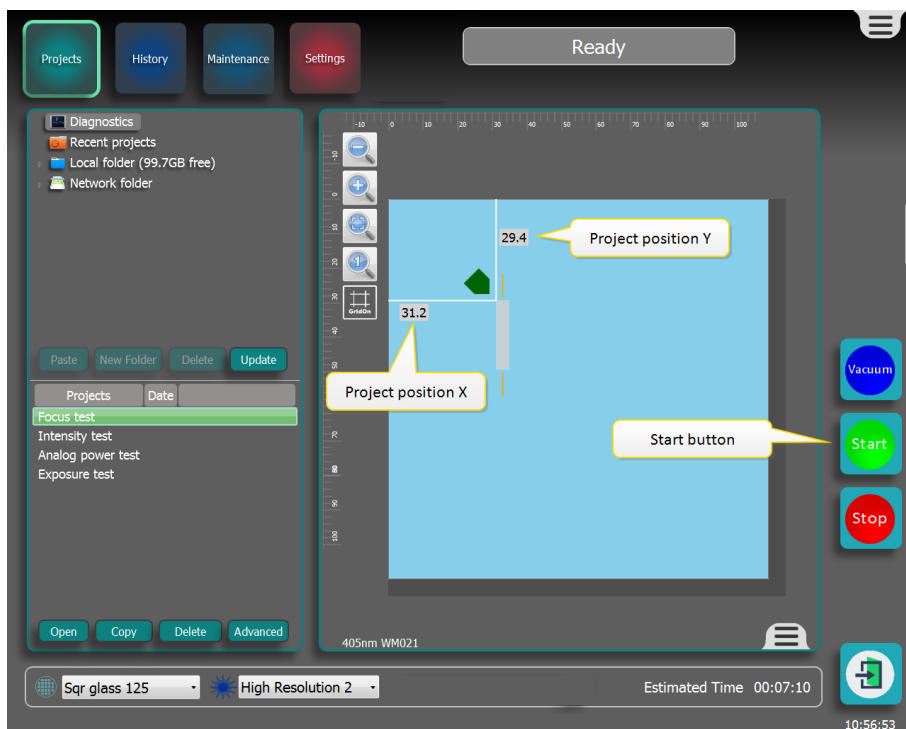

Figure 3-109 Starting a project queue
1. Make sure all projects are in the desired position on the substrate, see Figure 3-109.
3. To start the project or, if present, the project queue, press the Start button, see Figure 3-109